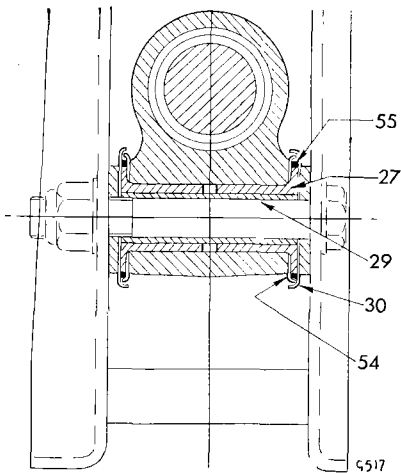

Fig. 53. Sectioned view of trunnion bushes
6. Examine and if necessary replace the seals and bushes as Fig. 53.
7. Fit the vertical link assembly (10) to the trunnion housing (26) and to the road spring eye bush (1). Do not, at this stage, fully tighten the spring eye bolt (46).
8. Jack up beneath the vertical link and fit the damper (9), radius arm (32) and the axle shaft coupling (45).
9. Place a trolley jack under the differential casing, remove the chassis stands and, with the vertical link supported at its running height, load the car and lower its rear end until the axle shaft assumes its static laden operating position. This is to allow the rubber bushes to assume their correct working position before tightening the nuts (11), (8), (13) and (28).